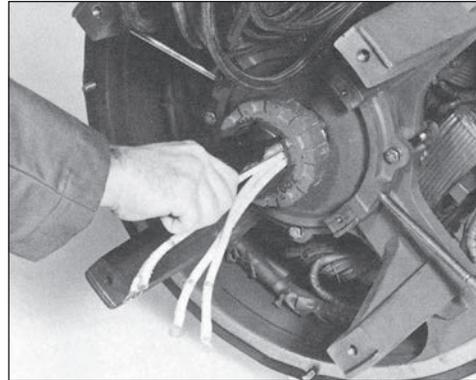

Figure 6-67
3. Install snap ring (figure 6-67). Use a piece of pipe slightly larger than the shaft (2-3/4 inches) to push the rotor back against the loading spring until the snap ring seats in the slot (figure 6-68).